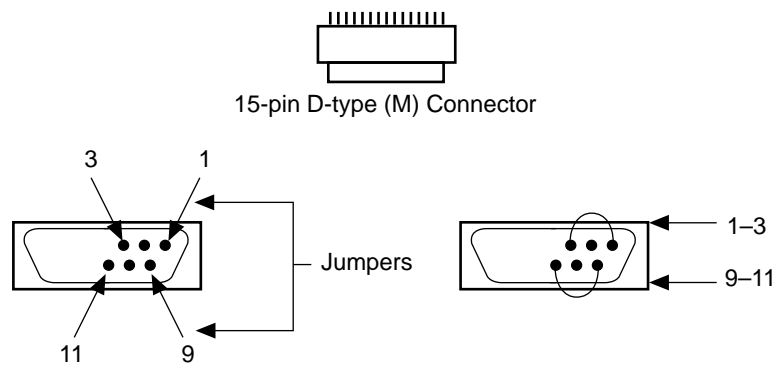

FIGURE 5-2. D-type (M) Loopback Connector for AI-T1 Diagnostics
- For AI-T1 tests, see the illustration of the loopback connector (Fig. 5-2).